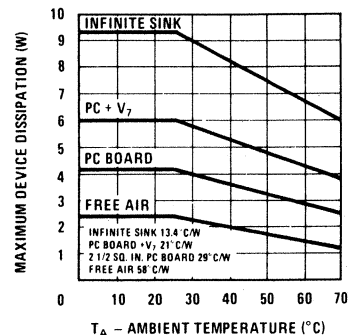

FIGURE 4.14.3 Maximum Dissipation vs. Ambient Temperature
Thermal resistance between junction to lead frame (or junction to heat sink if  $\theta_{LS}$  is ignored) is read, directly from the "Maximum Dissipation vs. Ambient Temperature" curve found on the data sheet. Figure 4.14.3 shows a typical curve for the LM378.
3. From Figure 4.14.3,  $\theta_{JL} = 13.4^\circ C/W$ .
Therefore, a heat sink with a thermal resistance of  $4.5^{\circ}\text{C/W}$  is required. Examination of Figure 4.14.3 shows this to be substantial heatsinking, requiring forethought as to board space, sink cost, etc.